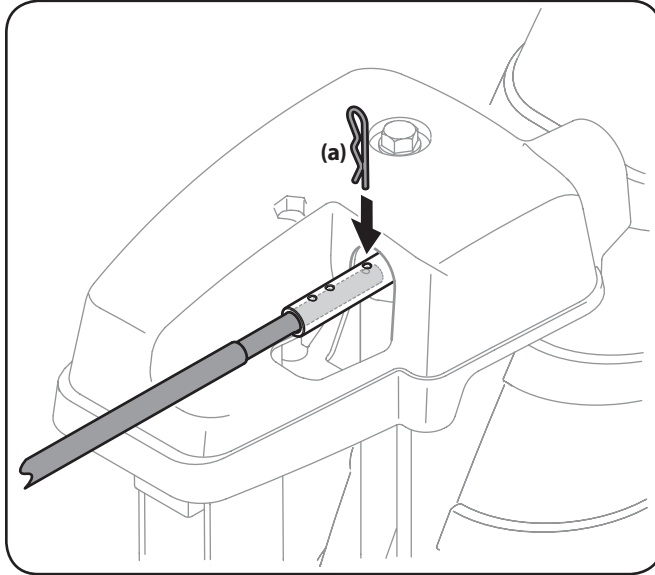

Figure 4-2
2. Push in the chute control rod until the hole in it lines up with the third hole in the chute rotation assembly. See Figure 4-2.
3. Reinsert the cotter pin (a) through this hole and the chute control rod as shown in Figure 4-2.